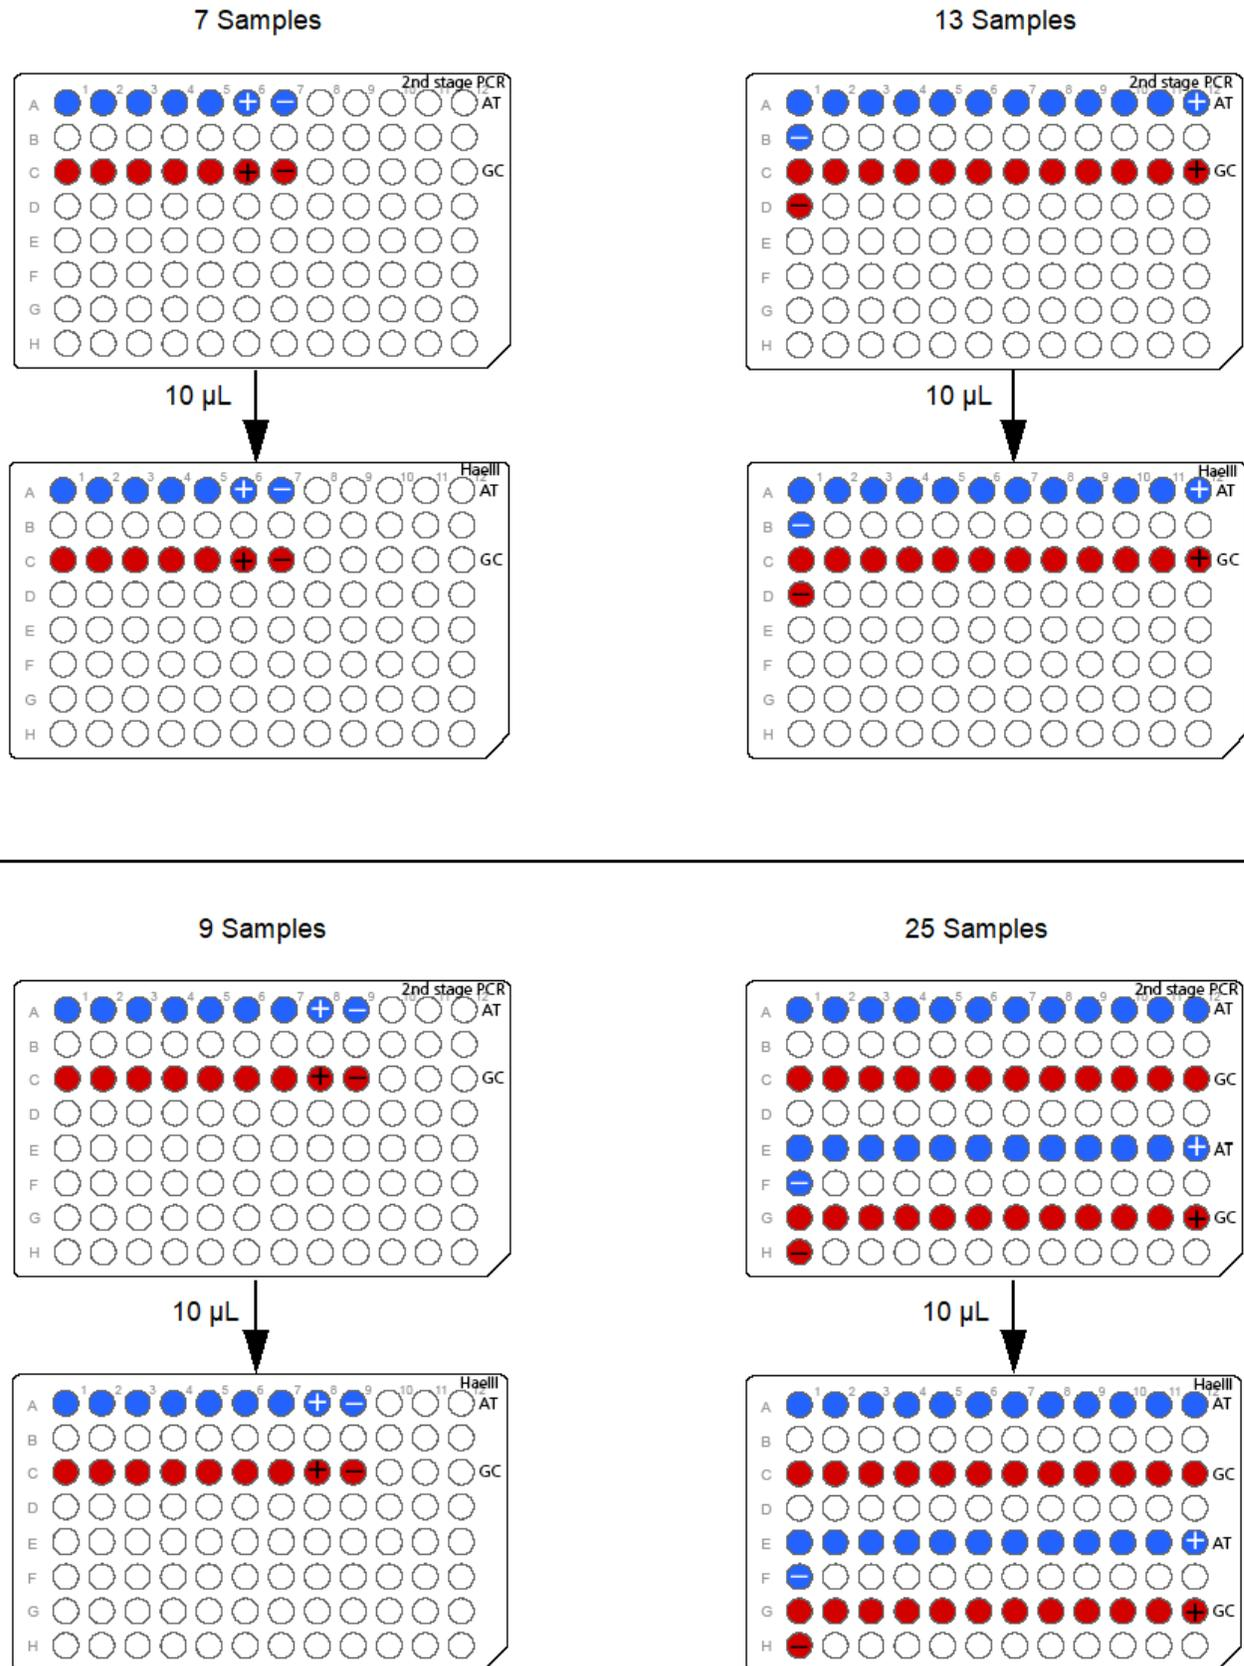

Figure 23 Adding the 2nd PCR product to the HAE Plate.
4. Use a multichannel P20 pipette to transfer 10.0  $\mu\text{L}$  of the 2nd PCR product in the **2nd PCR Plate** to the corresponding well of the **HAE Plate**. (Figure 23.)
**Note:** For the 13- or 25-sample protocol, use a single channel pipette to add 10.0  $\mu\text{L}$  of the Negative Control 2nd PCR product from the **2nd PCR Plate** to the corresponding wells of the **HAE Plate**. Pipet up and down 3 times to rinse the tip. (Figure 23.)